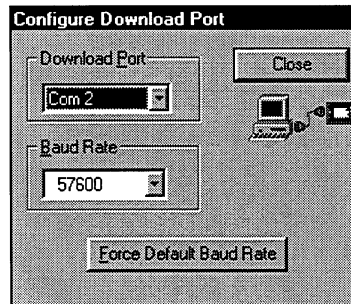

Figure 4-20. Configure Download Port Dialog Box
4. Click on the Configure Download Port button to open the Configure Download Port dialog box, as shown in Figure 4-20.